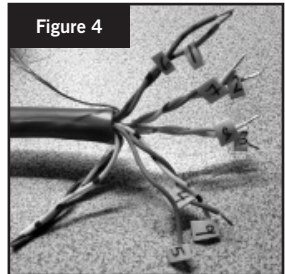

Figure 4
5. Strip individual wires to expose 1/8" for all wires that are used in Table 1. The unused wire should be left as a spare. (See figure 4)